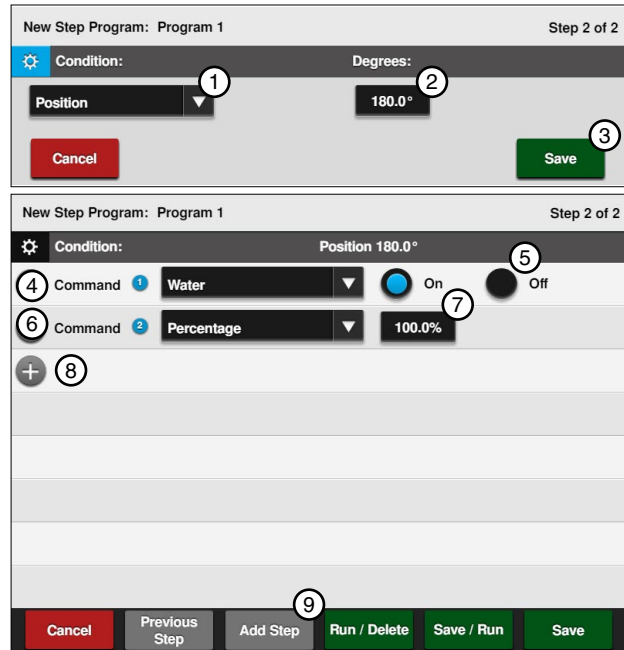

Figure 106-1 1. Position Condition 2. Degrees 3. Save 4. Water Command 5. Water OFF 6. Percent Command 7. Percent 8. Add Command 9. Add Step
5. Program the position condition for this step. Refer to Figure 106-1.
6. Enter the commands to execute at this position. Refer to Figure 106-1.